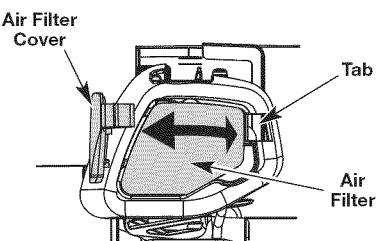

Fig. 16
1. Open the air filter cover by pressing the lock tab in and pulling out on the air filter cover (Fig. 16).
2. Remove the air filter (Fig. 16).
6. Replace the air filter into the base plate (Fig. 16).
7. Reinstall the air filter cover. Position the two small tabs on the air filter cover into the two slots in the base plate and press the air filter cover down, making sure to align the lock tab with the lock tab slot, until it snaps into place (Fig. 16).